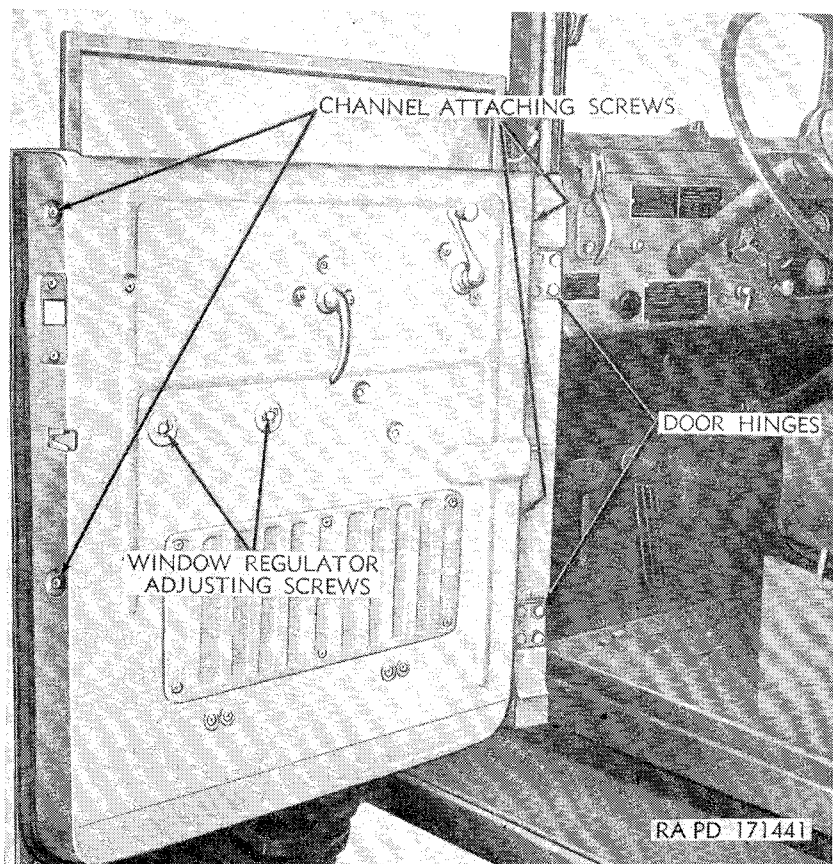

Figure 11. Left door open to show adjusting screws.
b. Door-glass alinement. To check the alinement of the door glass in the cab opening, move the glass up within 1 inch of the top and note if the glass frame is square in the opening. If the glass is not in proper alinement, loosen the two regulator adjusting screws (fig. 11) and move either corner of the glass up or down. Tighten the two screws.
d. Door-glass angle adjustment. If repositioning of the weatherstrips (*c* above) does not result in a satisfactory contact with the door-glass frame at the sides and top, a change in the glass angle may be necessary. This is done by loosening the channel attaching screws at inner and outer edges of the door (fig. 11) and moving the channels inward or outward to change the angle of the glass. Tighten the screws.
e. Door-glass frame to upper weatherstrip fit. If the contact between the door-glass frame and the upper channel is not uniform, loosen the two regulator screws (fig. 11) and aline the door glass as required. Tighten the screws.
f. Door-hinge adjustment. If the door-glass frame protrudes at the top and proper alinement cannot be accomplished by adjustment of the weatherstrip retainers or the lower channels, it may be necessary to reposition the door hinges (fig. 11). This is done by loosening the four hinge attaching screws on the cowl hinge pillar as the screw holes in the hinges are elongated. If it is necessary to tilt the door inward at the top, loosen the lower hinge screws, force the lower hinge outward the desired amount, and retighten the screws. Loosen the top hinge screws to correct any distortion that may have occurred at the top hinge. Tighten the screws.